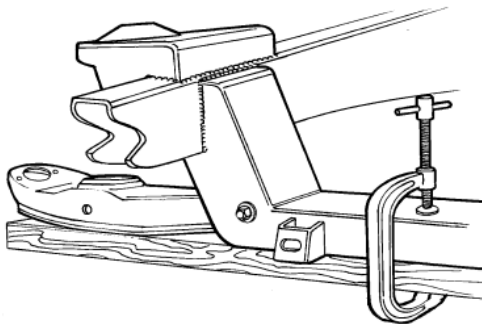

Figure 6- Control Arm Install
9. If you are using factory lower control arms and strut rods you will continue here. Use the lower control arm and strut rod for locating the rear strut rod supports and gussets. Using a 2 x 4 and a C-clamp, install the control arm as shown in **Figure 6**.